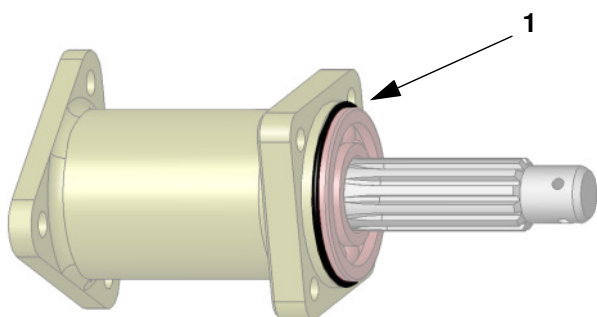

Fig.5
- Install the O-ring (Pos:1, Fig.1) on the wheel bearing as shown in the picture Fig.5.